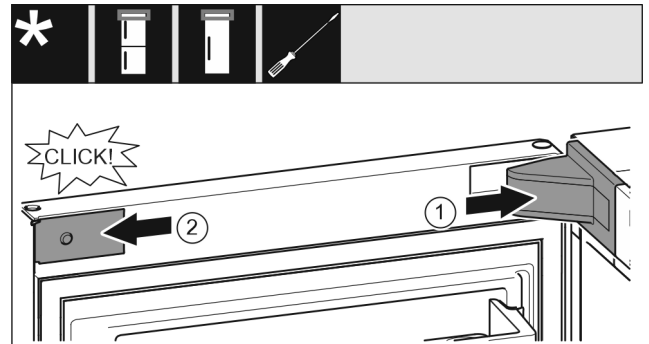

Fig. 18
- ▶ Position the bearing bracket and latch it in place. If necessary push it apart carefully. Fig. 18 (1)
- ▶ Position the panel on the side and latch into place. Fig. 18 (2)